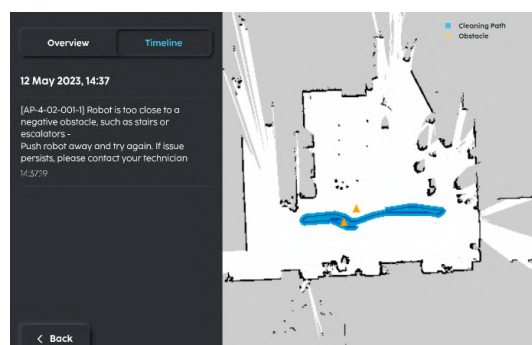

FIGURE 7-18
5. A 'Timeline' tab will appear if there are any issues that the machine encountered during the mission (**Fig. 7-18**).